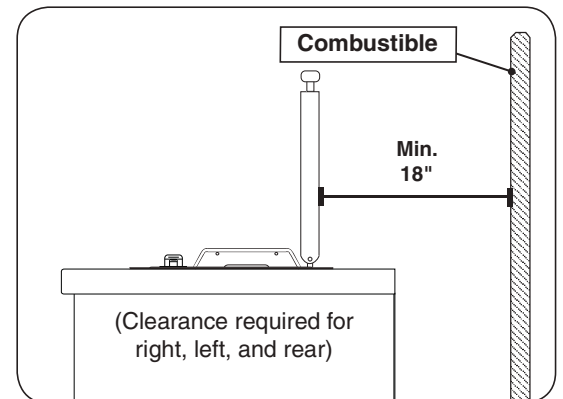

Fig. 7-3 Clearance 'C' Diagram
- The unit must have a minimum of 18" right, left, and rear clearance from any combustible wall (see Fig. 7-3).